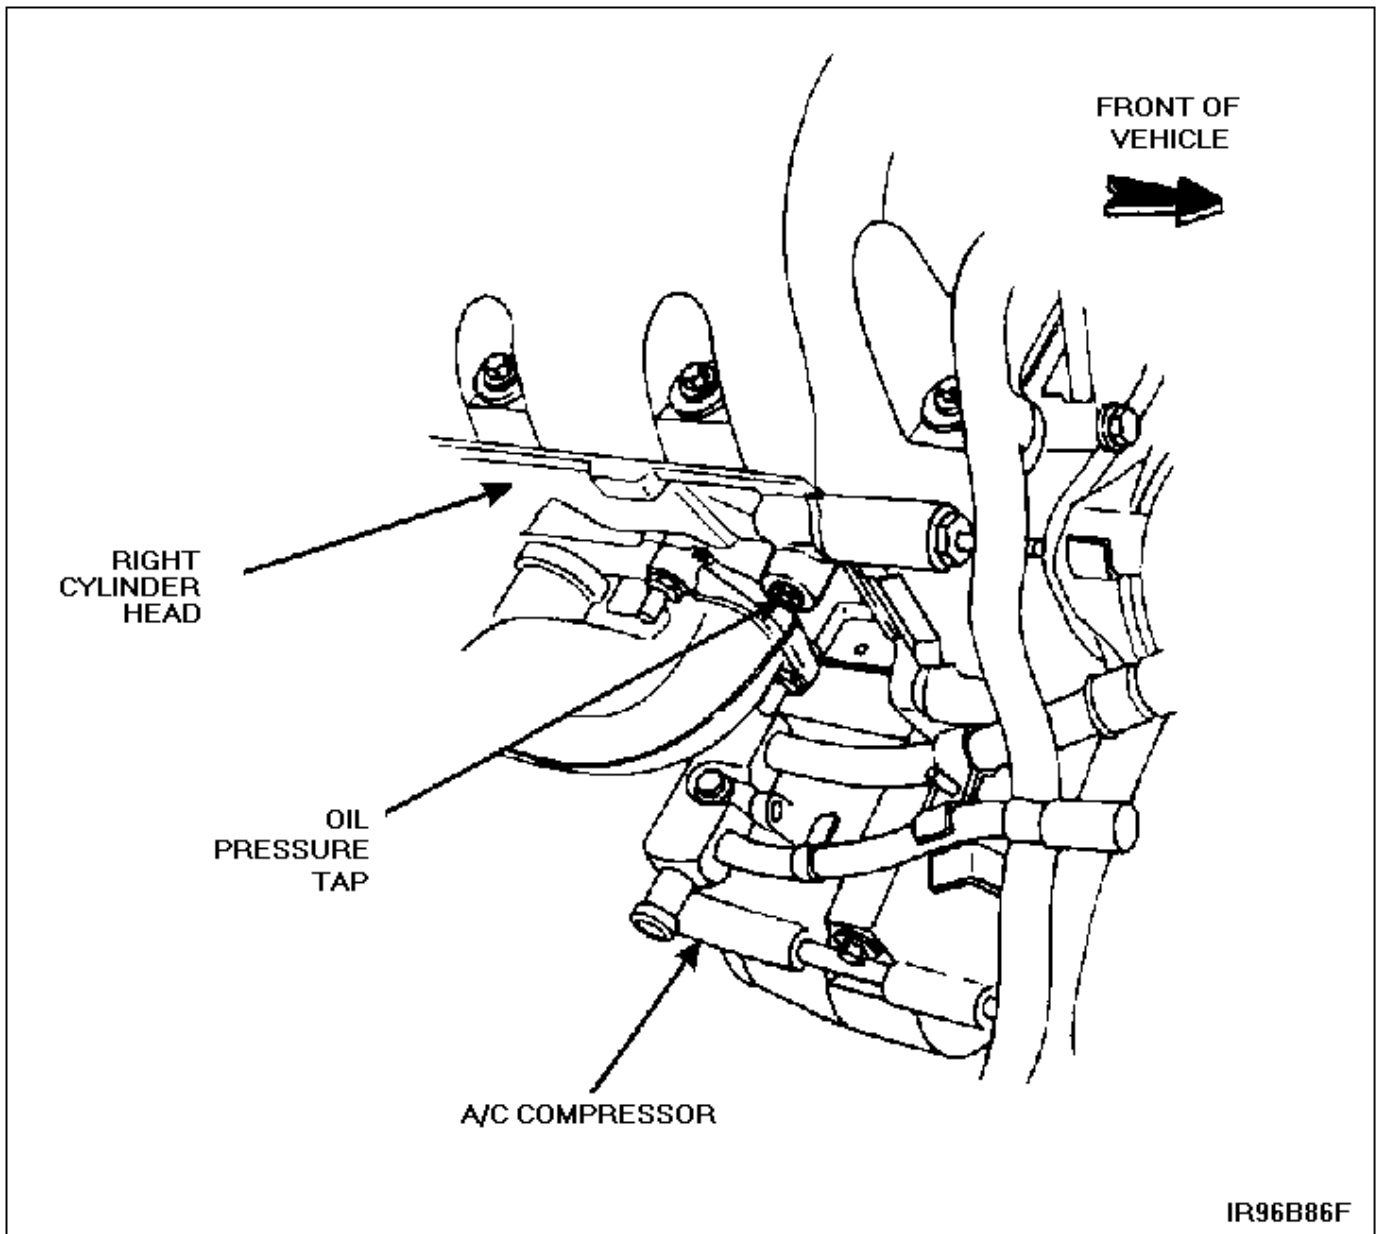

Figure 5
1. On the right cylinder head, the oil pressure tap is located on the side of the head between the front exhaust manifold port and the front cover and beneath the rocker cover. Remove the plug and connect the oil pressure gauge. See Figure 5.